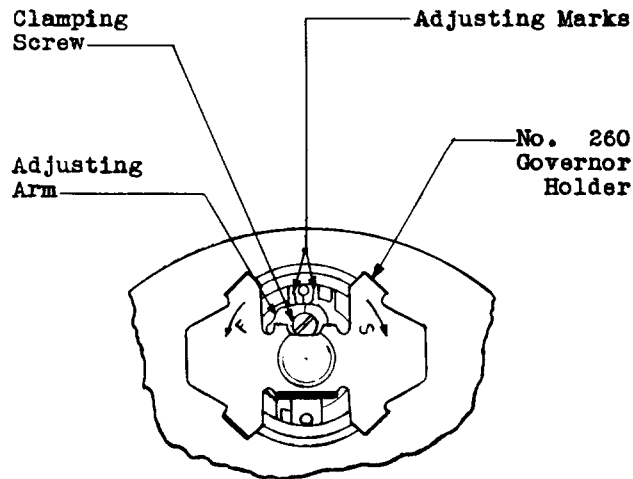

Fig. 7 - Illustrating the Position of the No. 260 Governor Holder
- (1) If the timing requirements are not met it may be due to improper mounting, bind in the shaft, interference from switch leads, governor out of adjustment or incorrectly positioned cams.
- (2) If the mounting requirement is not met, adjust the timer position, as outlined in 3.04.
- (3) If the cam shaft binds due to dirt in the bearings clean the bearings as outlined in 3.01. If the cam shaft is bent refer the matter to the supervisor.
- (4) Position switch leads, with the fingers or the R-2217 tweezers, to prevent interference with moving parts.
- (5) If the timer does not restore to normal evenly or within the specified time it is an indication that the governor is out of adjustment. Adjust the governor as outlined in (6) to (9) inclusive.
- (6) Place the No. 260 governor holder on the governor as shown in Figure 7.